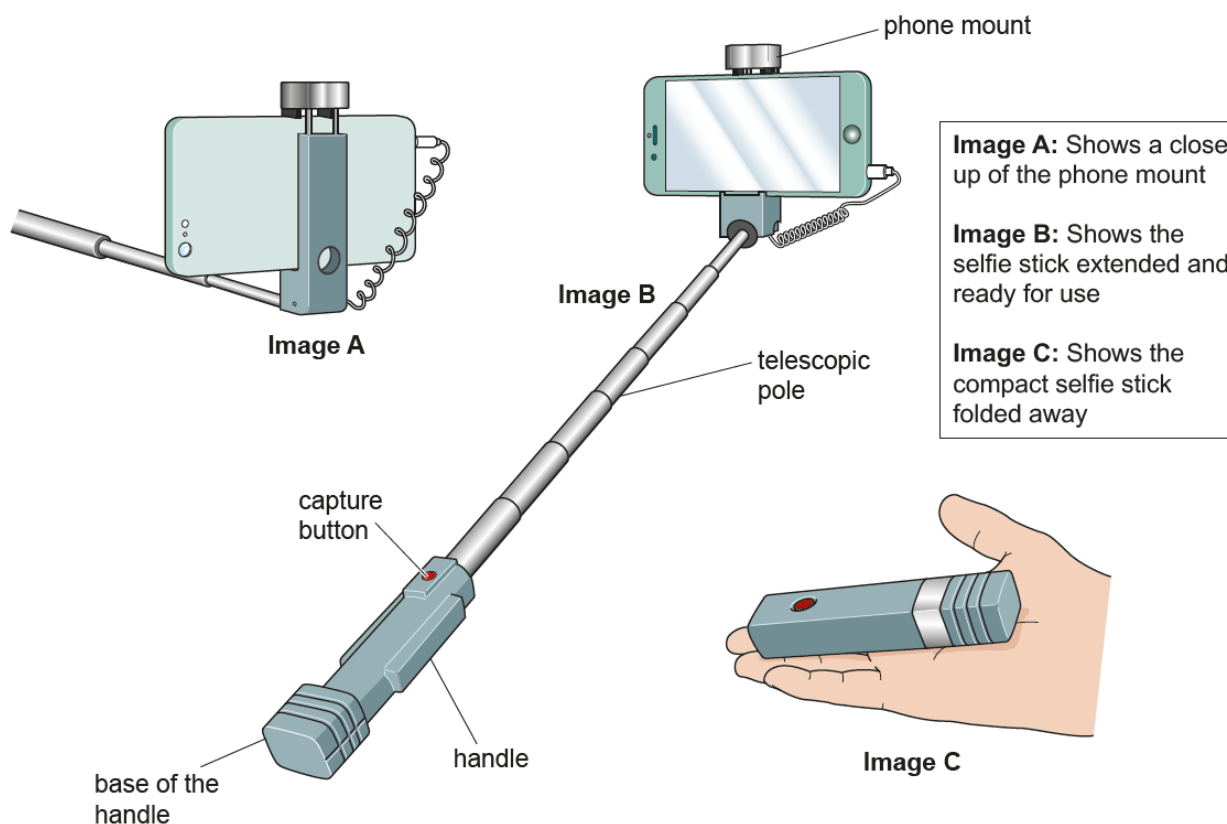

Fig. 1
- 1 **Fig. 1** shows three images of a selfie stick. A selfie stick is a hand held product used to take photographs or video by holding a smartphone, beyond the normal range of the arm.
- (a) Analyse **Fig. 1** to identify **two** design features of the selfie stick that ensure it functions as intended. Justify **each** of your responses.